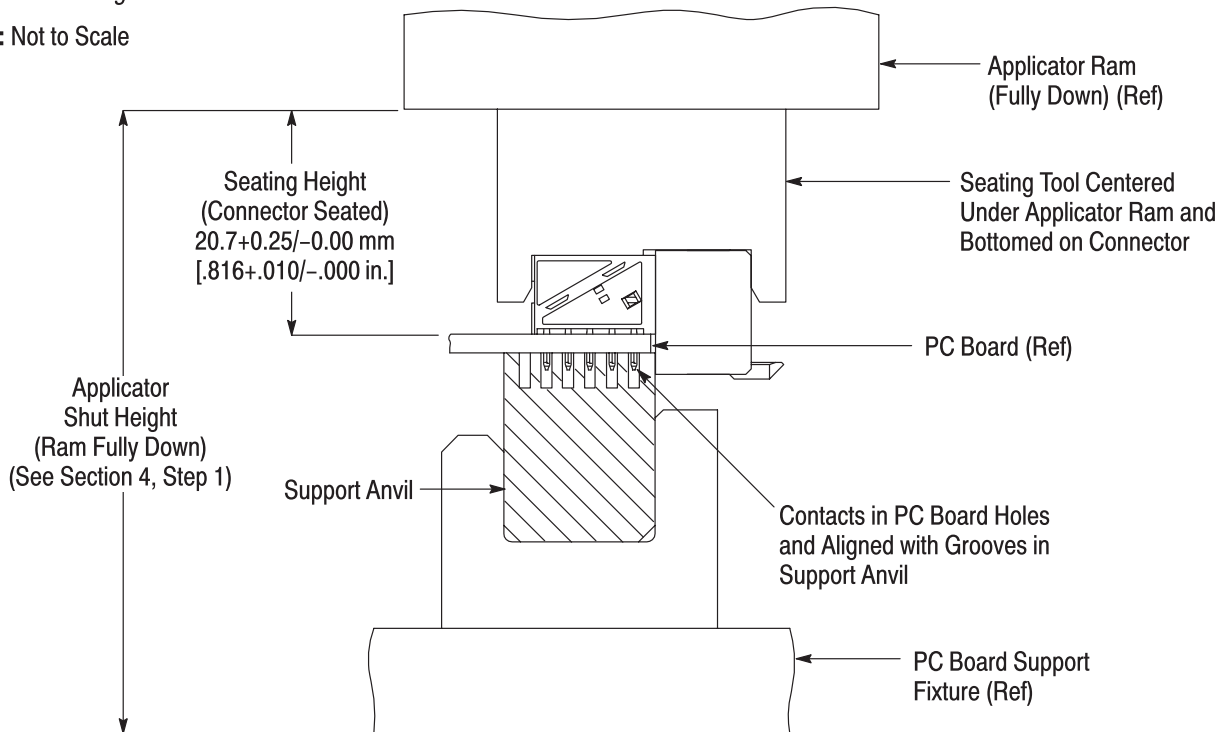

Figure 2
1. Set seating height to the dimension shown in Figure 2 (applicator *shut height* will equal the seating height PLUS the combined thicknesses of the pc board, support anvil, and pc board support).
3. Position the connector onto the pc board so that the contacts are properly aligned to the pc board and support anvil. See Figure 2.
7. Cycle applicator ram according to instructions for the application tooling. Check assembly for proper seating using the requirements in Figure 2.